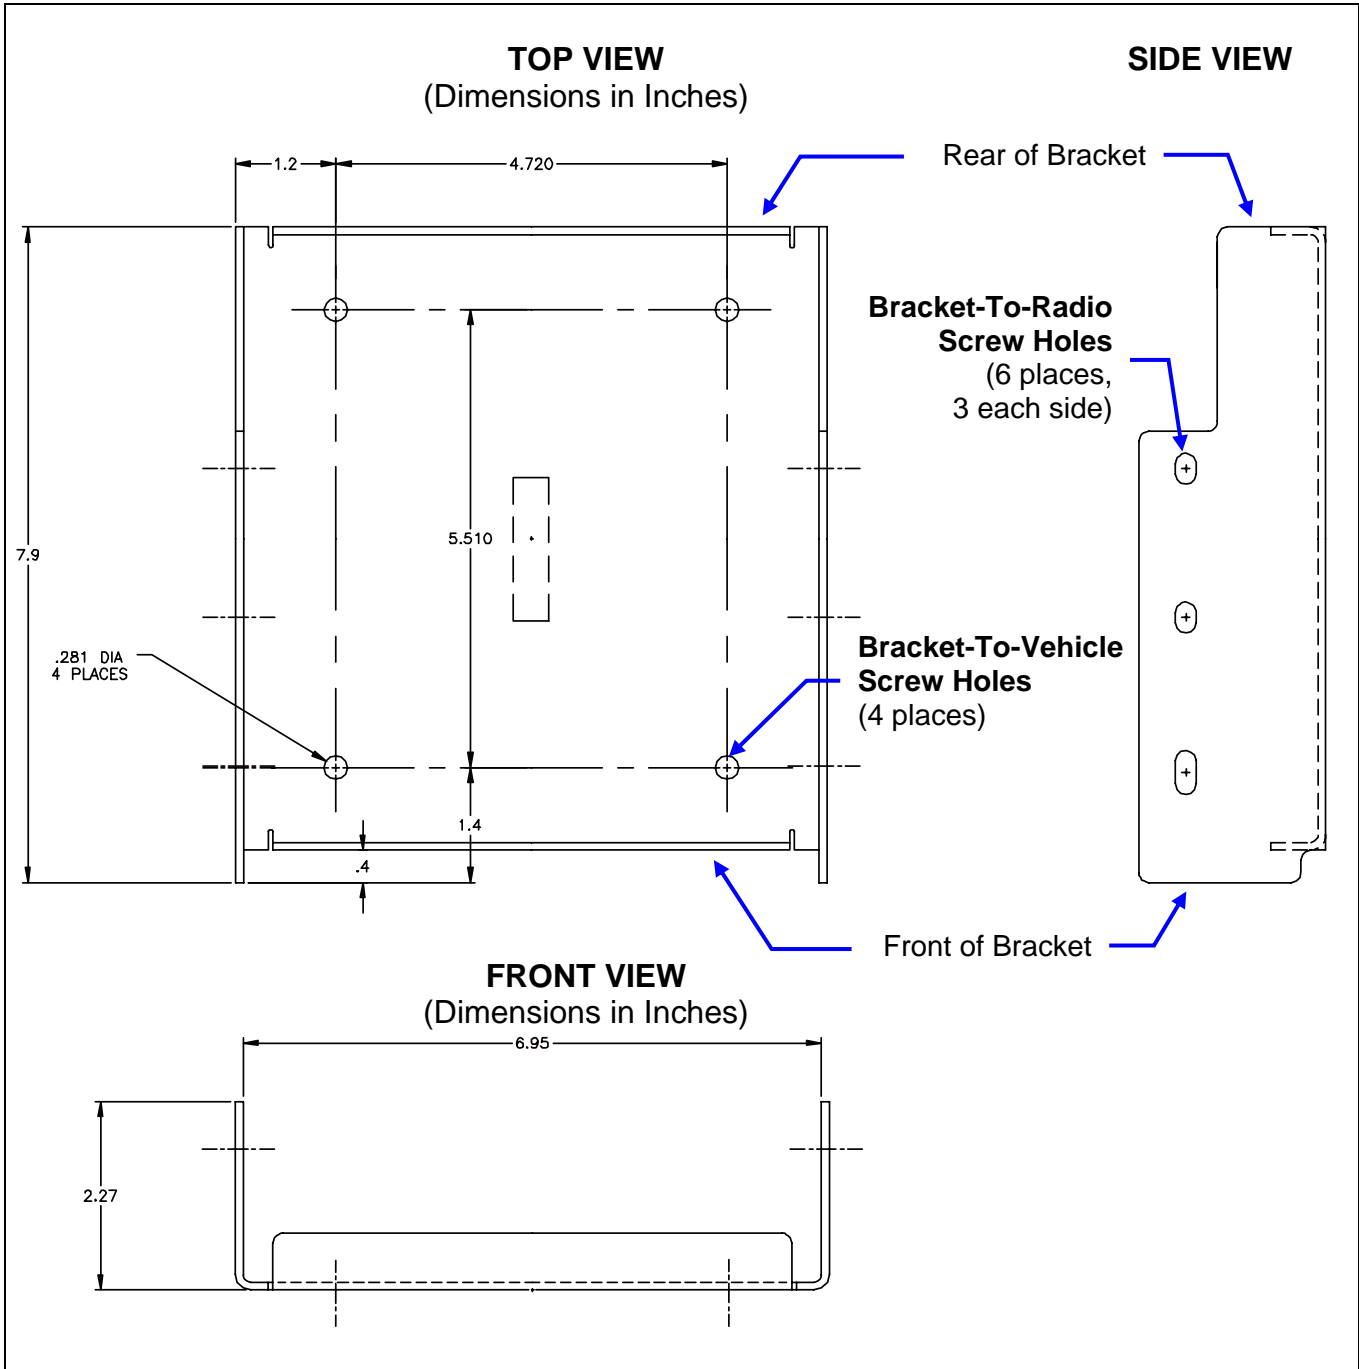

Figure 7-1: Mounting Bracket with Dimensions (Radio Not Shown)
As illustrated in Figure 7-1, the bracket is left-to-right symmetrical and the shortest portion of its side rails are at the rear.
1. Using the mounting bracket (part of item 1 in Table 4-1 on page 17) as a template, and/or the dimensional information shown in Figure 7-1, mark and drill four (4) mounting holes into the mounting surface as required per the type of hardware used. When the radio is installed in the bracket, it will extend approximately one (1) inch past the front edge bracket, and at the rear, it will extend approximately ½-inch past the rear edge of the bracket. This distance at the rear does not include space required for cable connections at the rear of the radio. As previously stated, a clearance of least four (4) inches at the rear of the radio is recommended.